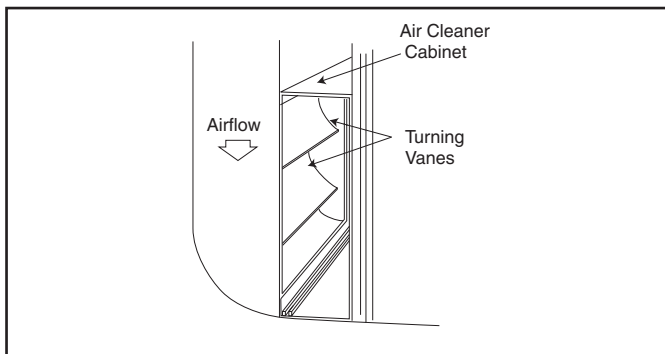

Figure 9 Turning Vanes
7. It is recommended that sheet metal turning vanes be installed inside an elbow on ductwork attached to the entering airstream side of the air cleaner. This improves the air distribution over the COLLECTION CELLS. See Figure 9.
**NOTE: It is recommended that sheet metal turning vanes be installed inside an elbow on ductwork attached to the entering airstream side of the air cleaner. See Figure 9 on Page 4.**